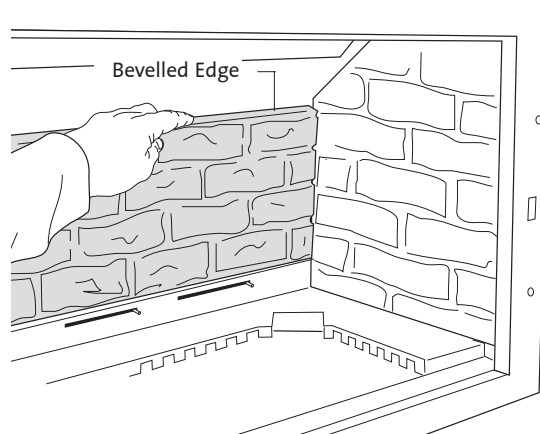

Figure 40. Install Lower Rear Panel.
4. **Install the Lower Rear Panel.** Orient the panel so that the beveled edge is on top and the mortar joints align with those on the side panels. Set the bottom edge on the shelf above the restrictor adjustment slots at the back of the firebox. The panel should fit snugly between the two side panels. See fig. 40.